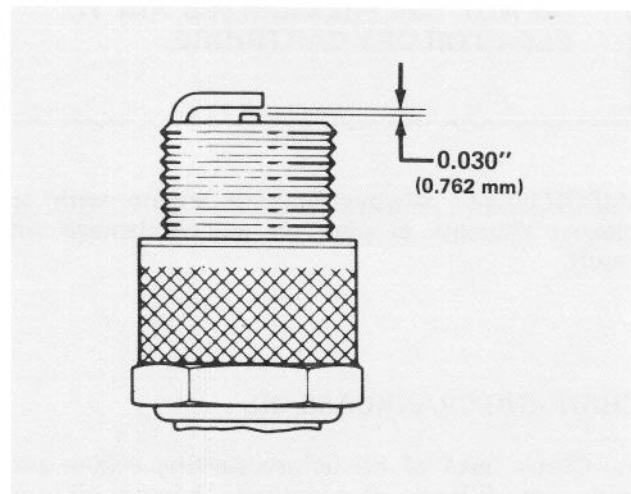

Figure 17
5. Set air gap between center and side electrodes at 0.030 of an inch (0.762 mm) (Fig. 17). Install correctly gapped spark plug w/gasket seal, and tighten plug to 15 ft-lb (20.4 N·m). If torque wrench is not used, tighten plug firmly.